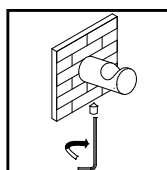

FIGURE 6
- Install post over bracket and secure with set screw. (FIGURE 6)